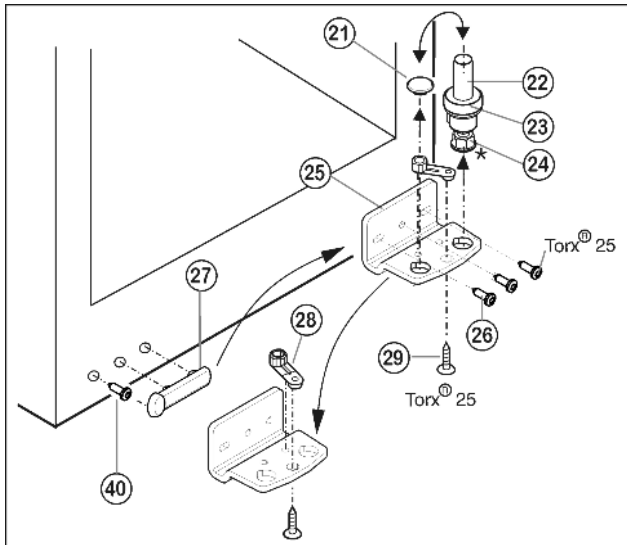
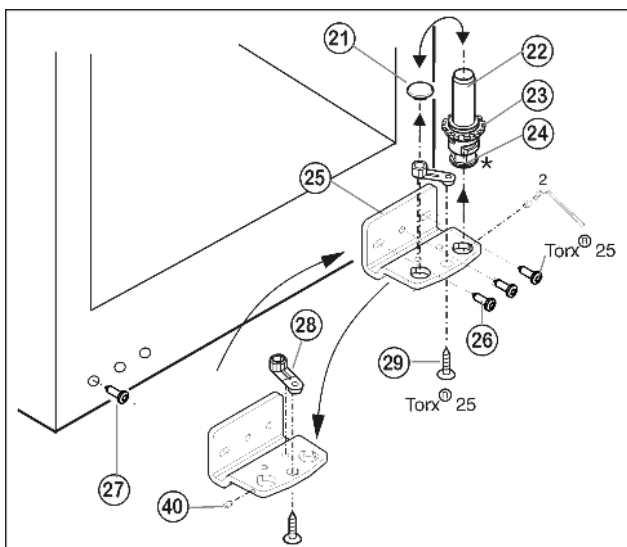

Fig. 5
Fig. 6
- ▶ Lift out the bearing pin Fig. 5 (22) together with washer Fig. 5 (23) and adjustable-height foot* Fig. 5 (24).
- ▶ Lift off the stopper Fig. 5 (21).
- ▶ Unscrew Fig. 5 (26) the turn hinge Fig. 5 (25).
- ▶ Unscrew Fig. 5 (29) the bearing element Fig. 5 (28), transfer it to the opposite location hole of the turn hinge and screw it firmly into place.
- ▶ Carefully lift off the cover on the handle side Fig. 5 (27), undo the screw Fig. 6 (40) and transfer both to the opposite side.
- ▶ Screw the turn hinge Fig. 5 (25) firmly into place on the new hinge side, possibly using a cordless screwdriver (with 4 Nm).
- ▶ Re-insert the stopper Fig. 5 (21) into the other hole.
- ▶ Re-insert the bearing pin Fig. 5 (22) together with the washer and adjustable-height foot*. In so doing, pay attention that the locating lug points backwards
- ▶ Using the accompanying Allen key, unscrew the threaded pin Fig. 6 (40) by about 1 turn.
- ▶ Turn and lift out the bearing pin Fig. 6 (22) together with the washer Fig. 6 (23) and adjustable-height foot* Fig. 6 (24).
- ▶ Lift out the stopper Fig. 6 (21).
- ▶ Unscrew Fig. 6 (26) the turn hinge Fig. 6 (25).
- ▶ Fully unscrew the threaded pin Fig. 6 (40) and screw it in on the opposite side, at the turn hinge, until it is flush outside with the turn hinge.
- ▶ Unscrew Fig. 6 (29) the bearing element Fig. 6 (28) transfer it to the opposite location hole of the turn hinge and screw it firmly into place.
- ▶ Re-insert the stopper Fig. 6 (21) into the other hole.
- ▶ Undo the screw Fig. 6 (27) and transfer it to the opposite side.
- ▶ Screw the turn hinge Fig. 6 (25) firmly into place on the new hinge side, possibly using a cordless screwdriver (with 4 Nm).
- ▶ Re-insert the bearing pin Fig. 6 (22) together with the washer and adjustable-height foot*.
- ▶ Tighten the threaded pin Fig. 6 (40).
- ▶ Place the door from above onto the lower bearing pin Fig. 6 (22).
- ▶ Align the door to the appliance housing by way of the two oblong holes in the bottom turn hinge Fig. 6 (25). To do so, unscrew the middle screw.